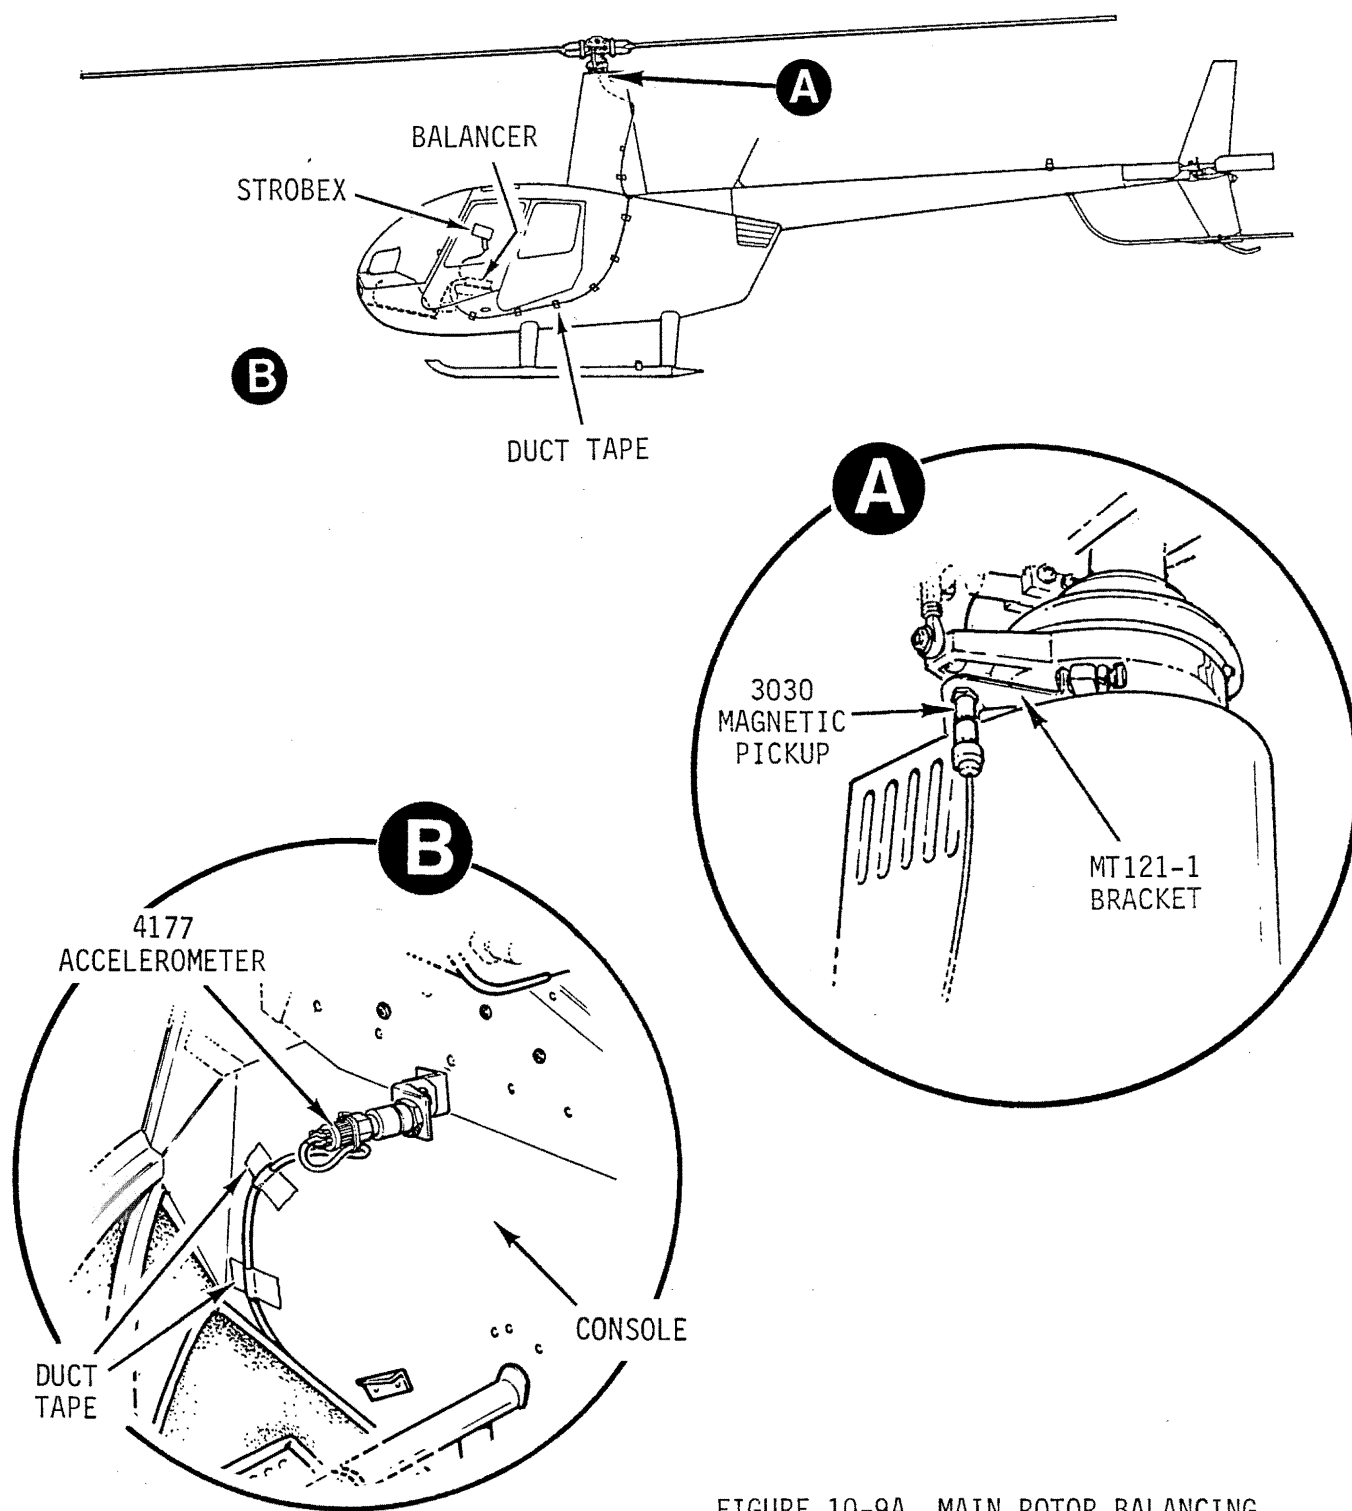

FIGURE 10-9A MAIN ROTOR BALANCING EQUIPMENT INSTALLATION
10.221 Main Rotor Equipment Installation (see Figure 10-9A)